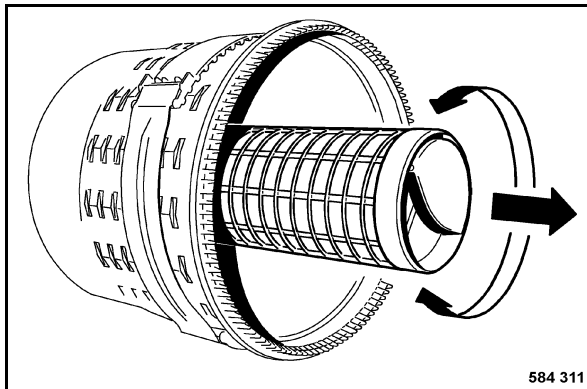

Fig. 192
- Pull the safety element (Fig. 192) out by turning it lightly.